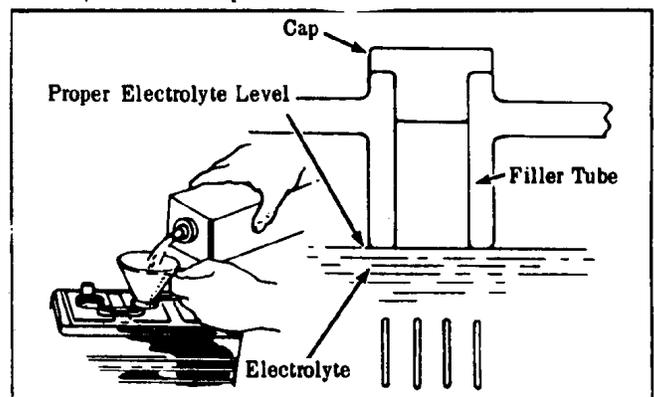

Figure 17
1. **BATTERY** - Check the water level of the battery by removing each of the six caps. If the level is below the bottom of the filler tube (See Fig. 17), use a paper cup and fill with distilled water.